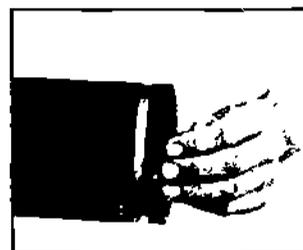

Figure 13-9. Checking Pipe Ends
h) Assembly of style HP-70 Rigid coupling and style HP-70ES coupling is shown in Figures 13-9 to 13-14.
*Step 1:* The pipe must be free from indentations, projections, or roll marks on the exterior from the end to the groove to ensure a leak-tight seat for the gasket (Figure 13-9).